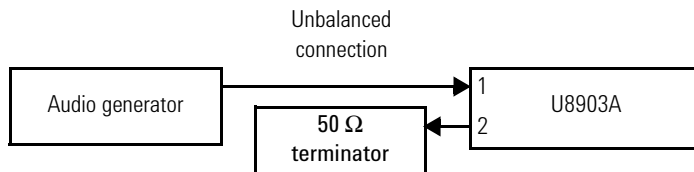

Figure 3-5 Audio generator to U8903A with terminator connection for crosstalk verification
- 1 Connect the audio generator to the U8903A input channel to be tested via the Unbalanced connection as shown in Figure 3-5. The BNC-to-banana jack adapter is used for this connection. Terminate the adjacent U8903A input channel with a 50 Ω terminator. Preset both the U8903A and audio generator.